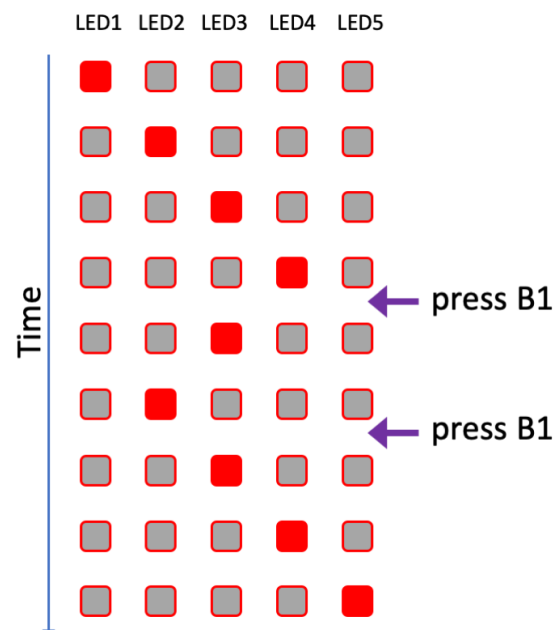

Figure 2: Direction of Movement Reverses
3. When button B1 is pressed, the direction of travel reverses so that when the 1 sec is completed, the change is in the opposite direction. This is shown in Figure 2.